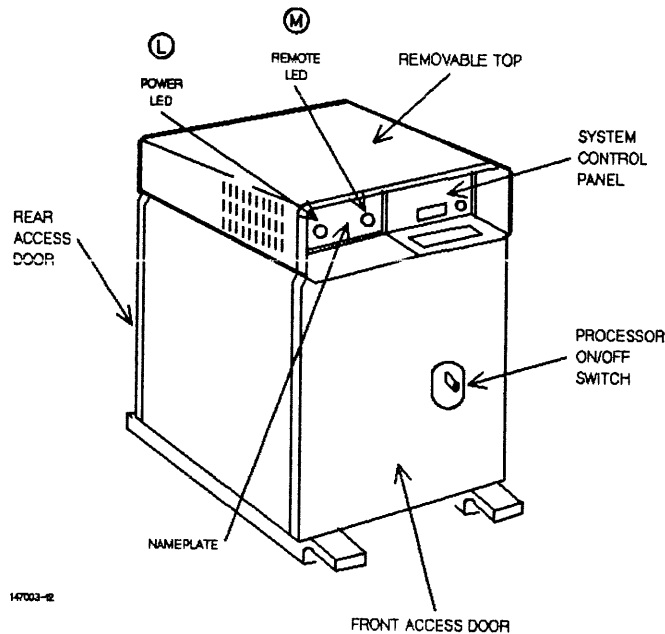
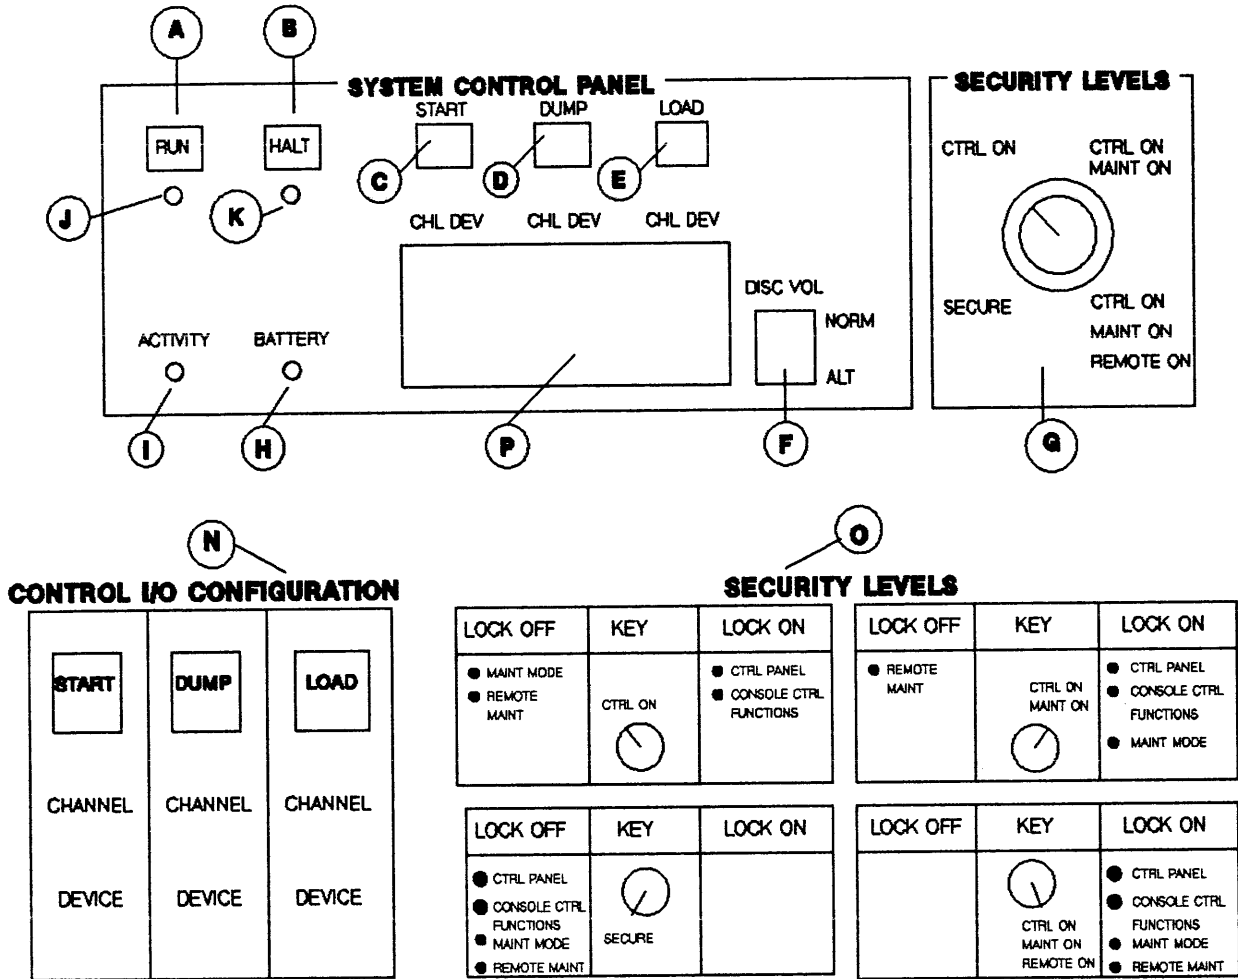

Figure 11-2. Series 39/40/42 System Processor Unit (SPU)
Figure 11-3. Series 39/40/42 System Control Panel Switch/Indicator Function
SERIES 39/40/42. The System Control Panel is located behind the non-lockable, magnetic-latch door on the right front side of the System Processor Unit (SPU) (Figure 11-2).
Hardware Related Controls. The hardware related controls are the RUN and HALT switches. See Figure 11-3 for an illustration of each of the System Control Panel's switches and indicator lights.
- (C) **START** Pressing this switch initiates either a COOLSTART or a WARMSTART of the system. The CHL and DEV address are set in the thumbwheel switches directly below the START switch (Figure 11-3.)
- (D) **DUMP** Pressing this switch initiates a dump of the system's memory to a serial disc, cartridge tape, or magnetic tape. The CHL and DEV address of the system disc are set in the thumbwheel switches below the DUMP switch.
- (E) **LOAD** Pressing this switch initiates a cold load from the DEV and CHL address set in the thumbwheel switches directly below the LOAD switch. The COLDSTART, UPDATE, and RELOAD operations are initiated with this switch.
- (F) **DISC VOL** This switch selects the NORMAL or ALTERNATE disc volume. The switch should always be in the "NORM" position.
Status Indicator Lights. The System Control Panel has six status indicator lights. The RUN, HALT, ACTIVITY, and BATTERY LEDs are located on the System Control Panel (Figure 11-3). The POWER and REMOTE CONSOLE LEDs are located in the nameplate on the front panel (Figure 11-2).
The three pairs of thumbwheel switches located on the front panel, correspond with the START, DUMP, and LOAD functions of the machine. Each pair contains a hardware channel number (CHL) and an HP-IB device (DEV) address setting for the corresponding START, DUMP, and LOAD devices. See Figures 11-3(C, D, E) and 11-5(C, D, E). These switches are initially set by your Hewlett-Packard Customer Engineer when your system is installed.